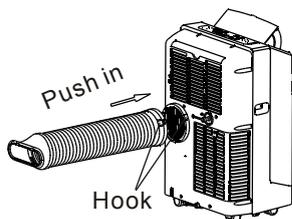
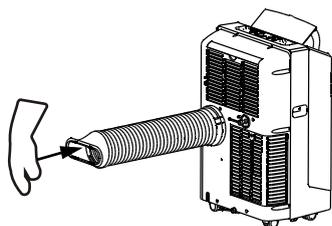

Fig. 19
Fig. 20
2. Place the Exhaust hose over against the air outlet opening hook (See Fig. 19) and flat the other end (See Fig. 20) for quick installation.